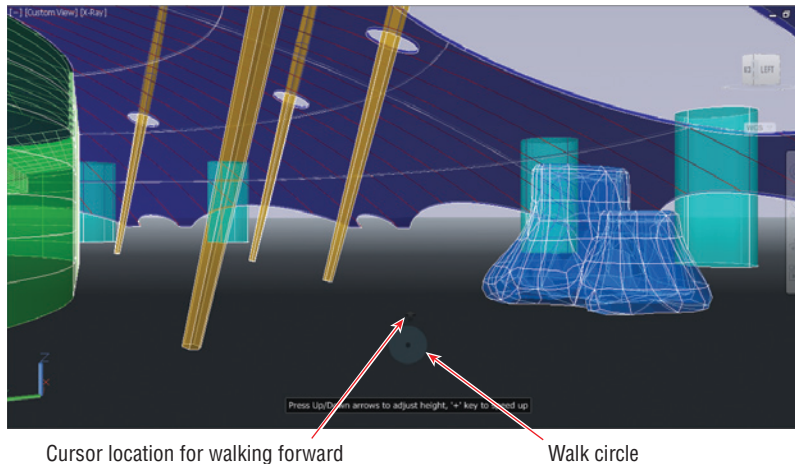

FIGURE 16.20 Walking under the dome
3. Position the cursor over the Walk tool within the inner ring of the SteeringWheel. Click and hold the mouse button, and observe a walk circle appear in the lower portion of the drawing canvas. Drag the cursor relative to the walk circle to move in that direction (see Figure 16.20). The further from the walk circle you drag, the faster you walk in that direction. Release the mouse button.